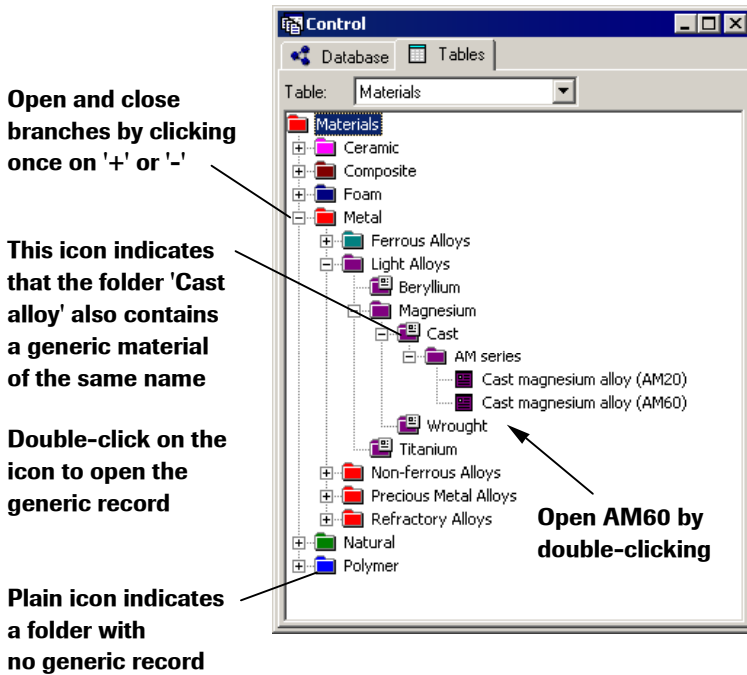

Fig. 10.2 The Materials tree in the Control window.
**Open the materials tree as shown in Figure 10.2, by clicking once on the '+' symbols, to display the contents of some of its branches.**